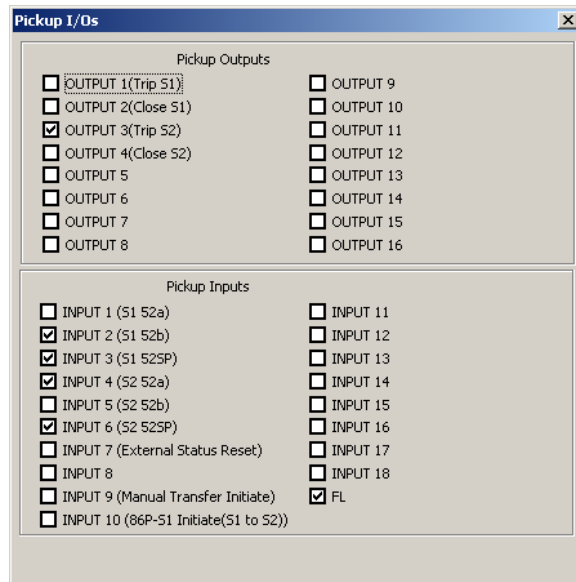

Figure 3-36 Sequence of Events Pickup I/Os Status Screen
8. To view the Sequence of Events Pickup Input and Output information select **Pickup I/Os**. ISScom will display the Pickup I/Os Status screen (Figure 3-36).